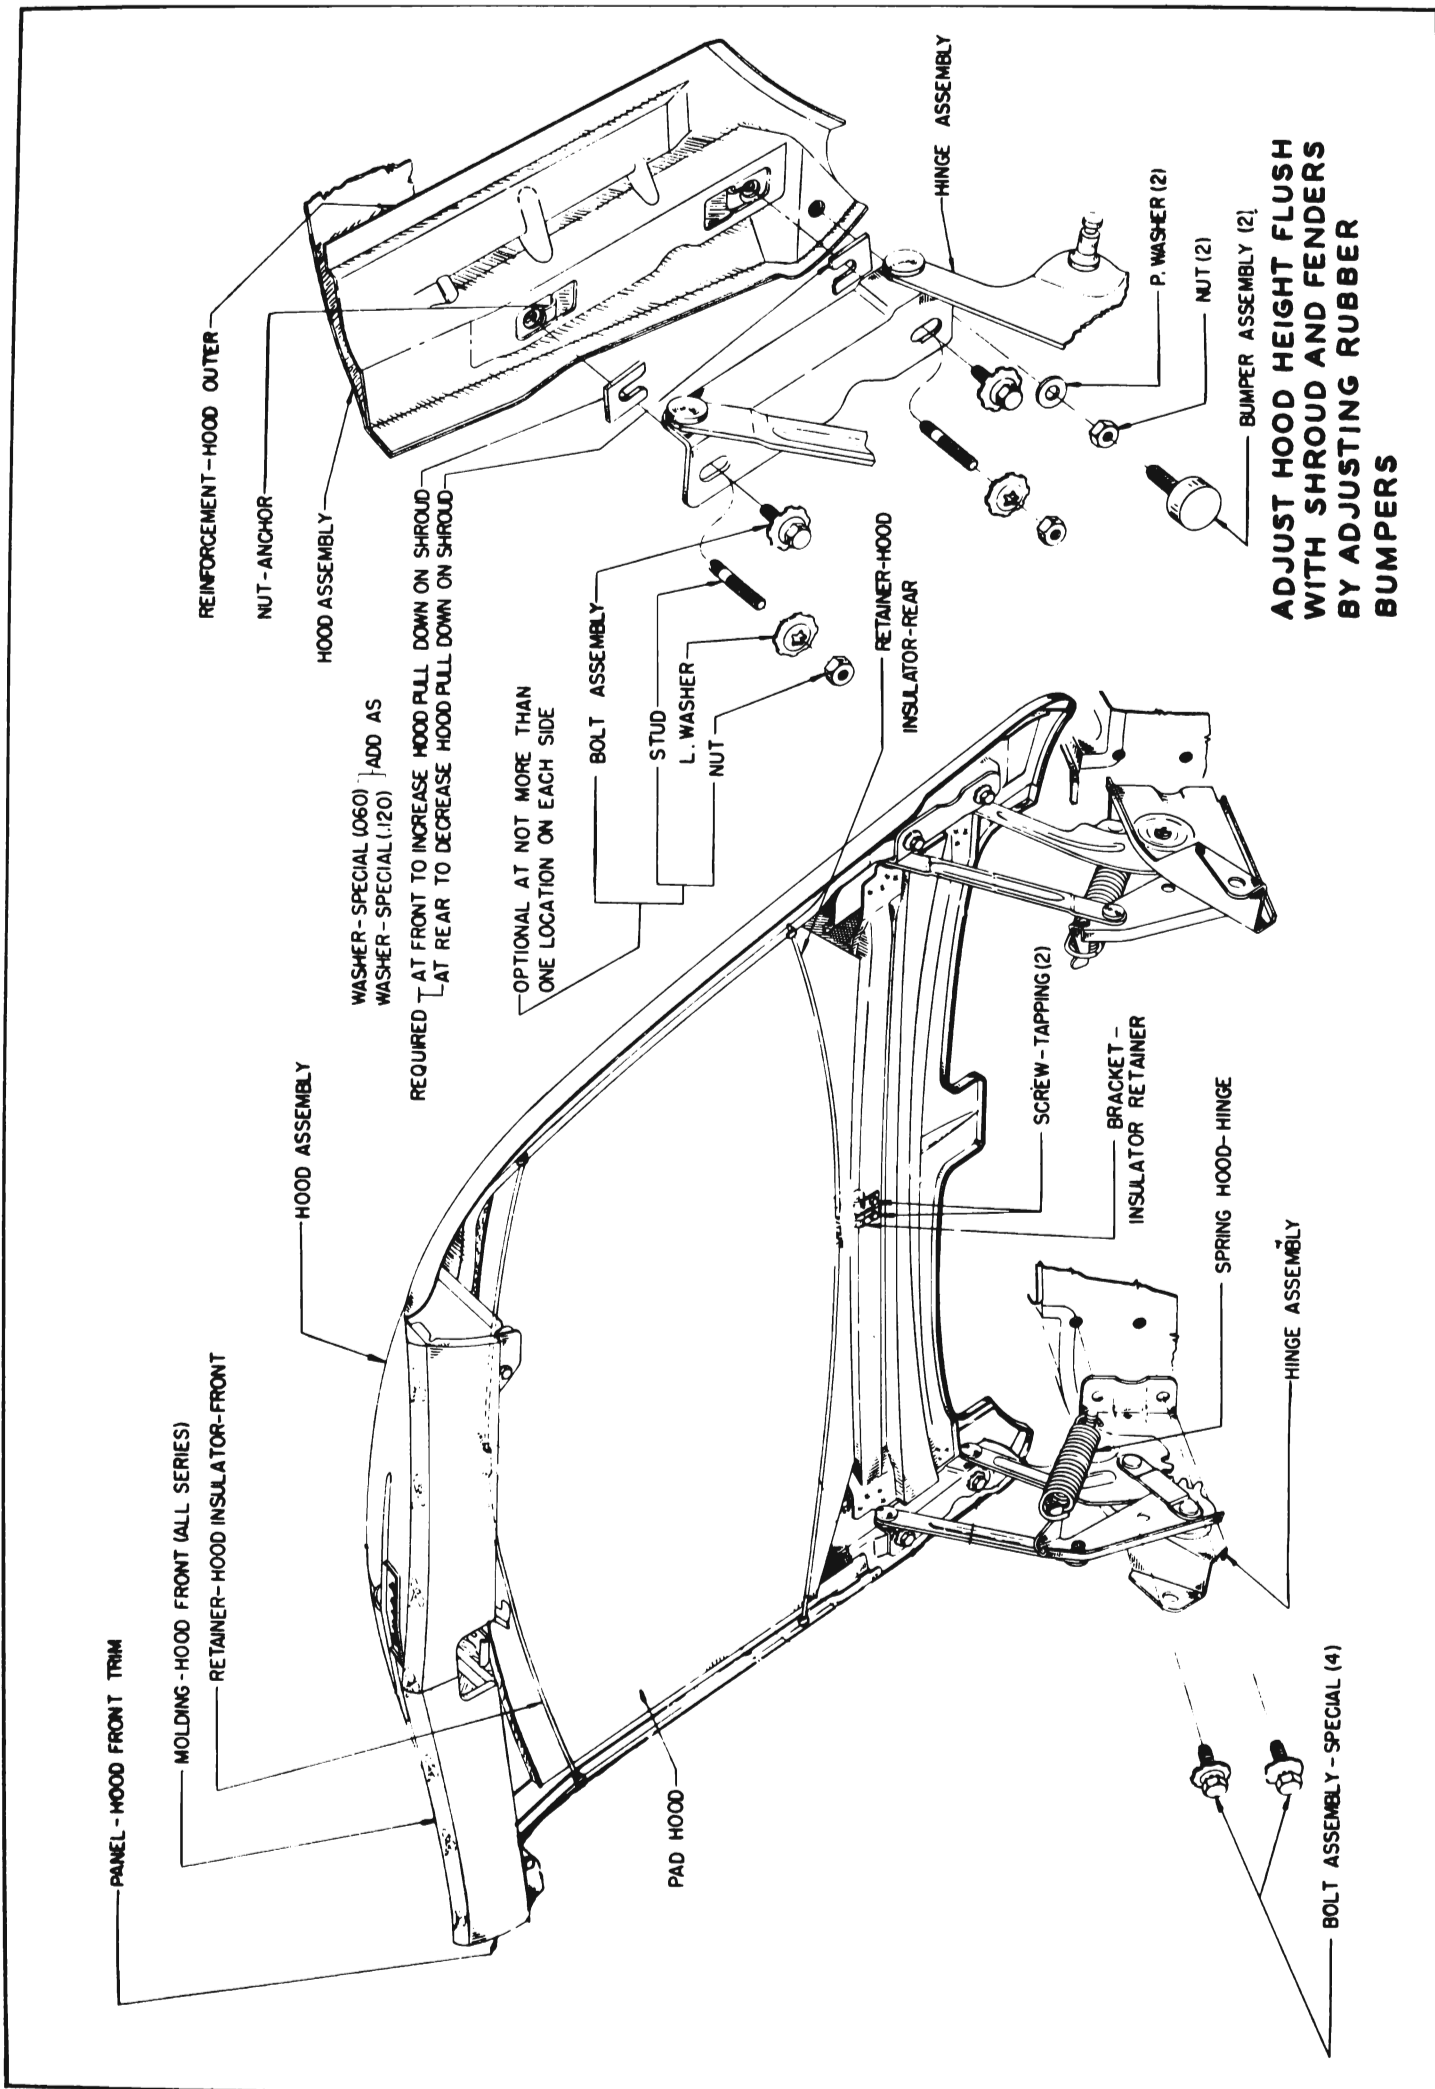

Figure 12-9—Hood Assembly
The rear of the hood assembly is attached to the body cowl and fender on each side by hinge assemblies which permit the front of the hood to be raised. A heavy coil spring connected between each hinge assembly assists in raising the hood and holds it in the open position. See Figure 12-9.
To prevent hood panel flutter, the rear end of hood panel must have firm contact with the rubber bumpers and lacing attached to cowl ledge. The hood may be raised or lowered by adjustment at hinges. See figure 12-9.
2. *Rear Tension.* Too little tension is indicated if the rear hood area flutters. To increase tension, add shims between the hood and the hinges at the front bolts. See Figure 12-9.
Too much tension is indicated if the rear area of the hood bends as it is closed. To decrease tension, add shims between the hood and the hinges at the rear bolts. See Figure 12-9.